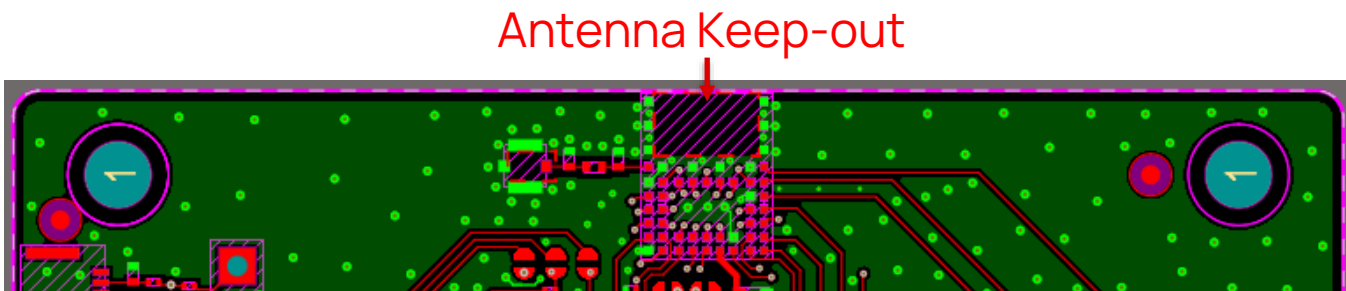

Figure 6: Chip Antenna keep-out area (shown in red) of the BL54L15 μ development board for the 453-00223 module.
- The BL54L15 μ development board (453-00223-K1) has the 453-00223 module on the edge of the board (not in the corner). The antenna keep-out area is defined by the BL54L15 μ development board which was used for module development and antenna performance evaluation shown in Figure 6, where the antenna keep-out area is 3mm wide, 5mm long; with PCB dielectric (no copper) height ~1.6mm sitting under the 453-00223 chip antenna module.
- Host PCB land pattern and antenna keep-out for the BL54L15 μ applies when the 453-00223 is placed in the edge of the host PCB preferably in the edge center. Figure 6 shows an example.